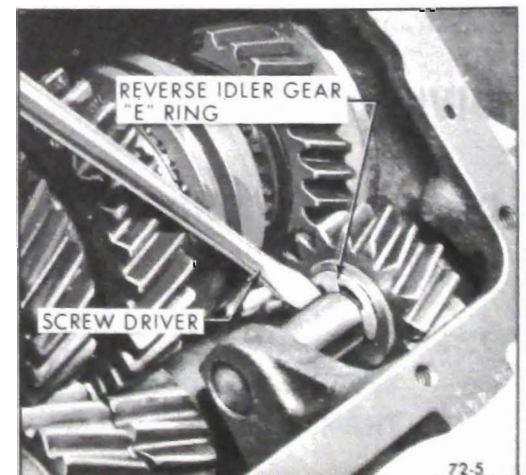

Figure 72-5-Removing Reverse Idler 'E' Ring
6. Remove reverse idler shaft to gear "E" ring. See Figure 72-5.